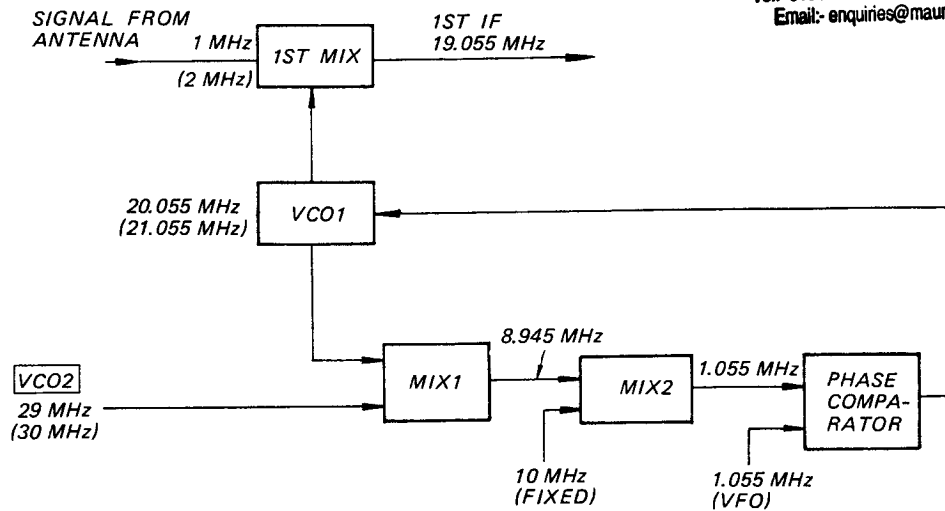
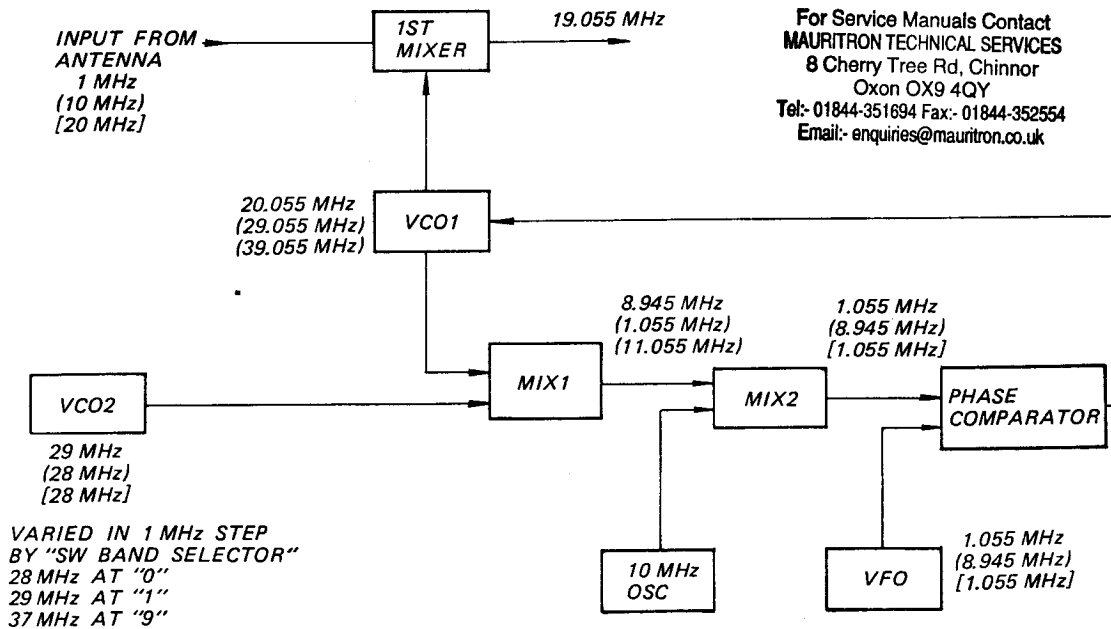

Fig. 5
Fig. 7
1) Fig. 5 is a block diagram showing the principle of the PLL circuit employed in this set. Let us consider this block diagram.
When the two signals are mixed by the mixer 2, a 1.055 MHz signal (10 - 8.945 = 1.055 MHz) is produced as the output of the mixer 2, and is then fed to the phase comparator. Meanwhile, a separate signal from an oscillator is also fed to the phase comparator as shown in Fig. 5 [Hereinafter, this oscillator will be referred to as the VFO.]
With a PLL circuitry as shown in Fig. 5, it is the stability of the three oscillators, VCO2, the 10 MHz fixed oscillator, and the VFO, that determine the overall stability of the PLL.
Fig. 7 is essentially the block diagram shown in Fig. 5 to which the frequencies of each of the sections are indicated when receiving 1 MHz, 10 MHz, and 20 MHz signals.
The following frequencies are fed out from the output of the mixer 2 when receiving a 10 MHz signal as indicated in Fig. 7.
The frequency of VCO1 is controlled by first comparing the signals by the phase comparator, obtaining the difference in the form of a voltage difference, and feeding this differential to the variable capacitance diode of VCO1. As shown in Fig. 7, whether it is a 1 MHz, 10 MHz, or 20 MHz signal that is being received, the frequency that is fed to the phase comparator is always 1.055 MHz. This would make it seem that VCO1 will constantly be oscillating at the same frequency, however, the oscillator circuit of VCO1 is switched by means of a switch for 1 MHz level signals, 10 MHz level signals, and 20 MHz level signals, and so it never oscillates at the same frequency.